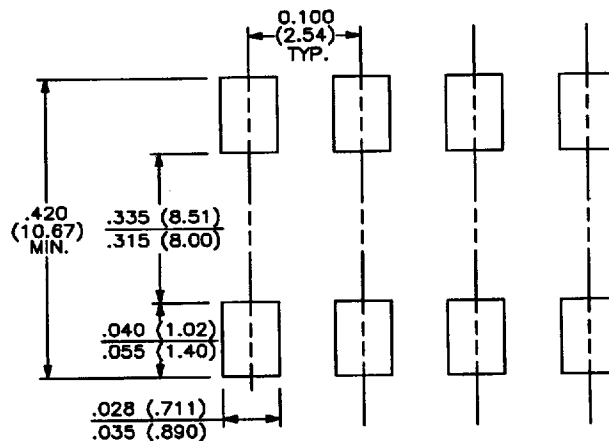

FIGURE 27: Recommended solder pad footprint, 8-pin Gull Wing configuration.
- **Figure 27 represents the 8-pin GULL WING solder pad we recommend and is basically the equivalent of the industry standard SO-16L wide footprint utilizing every other pad (i.e. lead centers are .100" instead of .050").**